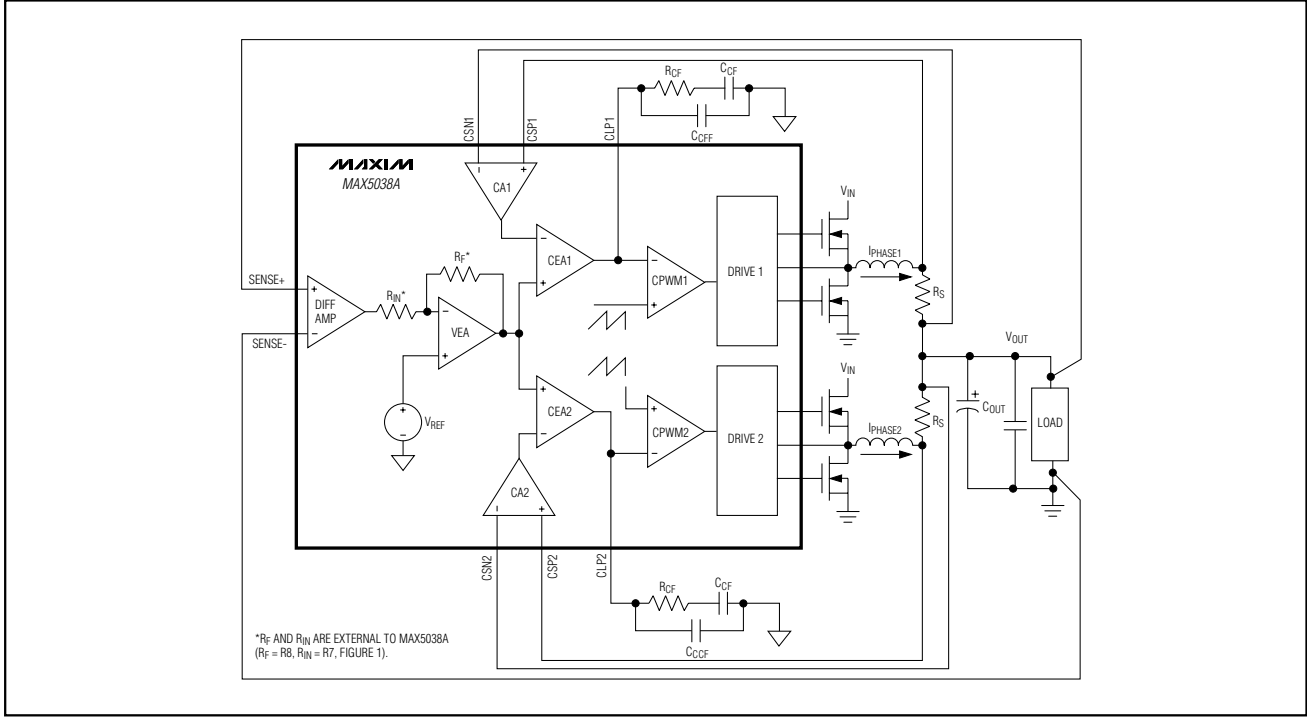

Figure 3a. MAX5038A Control Loop
The MAX5038A/MAX5041A use an average-current-mode control scheme to regulate the output voltage (Figures 3a and 3b). The main control loop consists of an inner current loop and an outer voltage loop. The inner loop controls the output currents (I_{PHASE1} and I_{PHASE2}) while the outer loop controls the output voltage. The inner current loop absorbs the inductor pole reducing the order of the outer voltage loop to that of a single-pole system.
The outer voltage control loop consists of the differential amplifier (DIFF AMP), reference voltage, and VEA. The unity-gain differential amplifier provides true differential remote sensing of the output voltage. The differential amplifier output connects to the inverting input (EAN) of the VEA. The noninverting input of the VEA is internally connected to an internal precision reference voltage. The MAX5041A reference voltage is set to +1.0V and the MAX5038A reference is set to the preset output voltage. The VEA controls the two inner current loops (Figures 3a and 3b). Use a resistive feedback network to set the VEA gain as required by the adaptive voltage-positioning circuit (see the *Adaptive Voltage Positioning* section).
Each phase of the MAX5038A/MAX5041A has a dedicated transconductance current-error amplifier (CEA₊) with a typical g_m of 550 μ S and 320 μ A output sink and source current capability. The current-error amplifier outputs, CLP1 and CLP2, serve as the inverting input to the PWM comparator. CLP1 and CLP2 are externally accessible to provide frequency compensation for the inner current loops (Figures 3a and 3b). Compensate CEA₊ such that the inductor current down slope, which becomes the up slope to the inverting input of the PWM comparator, is less than the slope of the internally generated voltage ramp (see the *Compensation* section).
The differential amplifier (DIFF AMP) facilitates output voltage remote sensing at the load (Figures 3a and 3b). It provides true differential output voltage sensing while rejecting the common-mode voltage errors due to high-current ground paths. Sensing the output voltage directly at the load provides accurate load voltage sensing in high-current environments. The VEA provides the difference between the differential amplifier output (DIFF) and the desired output voltage. The differential amplifier has a bandwidth of 3MHz. The difference between SENSE+ and SENSE- regulates to the preset output voltage for the MAX5038A and regulates to +1V for the MAX5041A.
The VEA output clamps to +0.9V (plus the common-mode voltage of +0.6V), thus limiting the average maximum current from individual phases. The maximum average-current-limit threshold for each phase is equal to the maximum clamp voltage of the VEA divided by the gain (18) of the current-sense amplifier. This allows for accurate settings for the average maximum current for each phase. Set the VEA gain using R_F and R_{IN} for the amount of output voltage positioning required as discussed in the *Adaptive Voltage Positioning* section (Figures 3a and 3b).
Average-current-mode control has the ability to limit the average current sourced by the converter during a fault condition. When a fault condition occurs, the VEA output clamps to +0.9V with respect to the common-mode voltage ($V_{CM} = +0.6V$) and is compared with the output of the current-sense amplifiers (CA1 and CA2) (see Figures 3a and 3b). The current-sense amplifier's gain of 18 limits the maximum current in the inductor or sense resistor to $I_{LIMIT} = 50mV/R_S$.